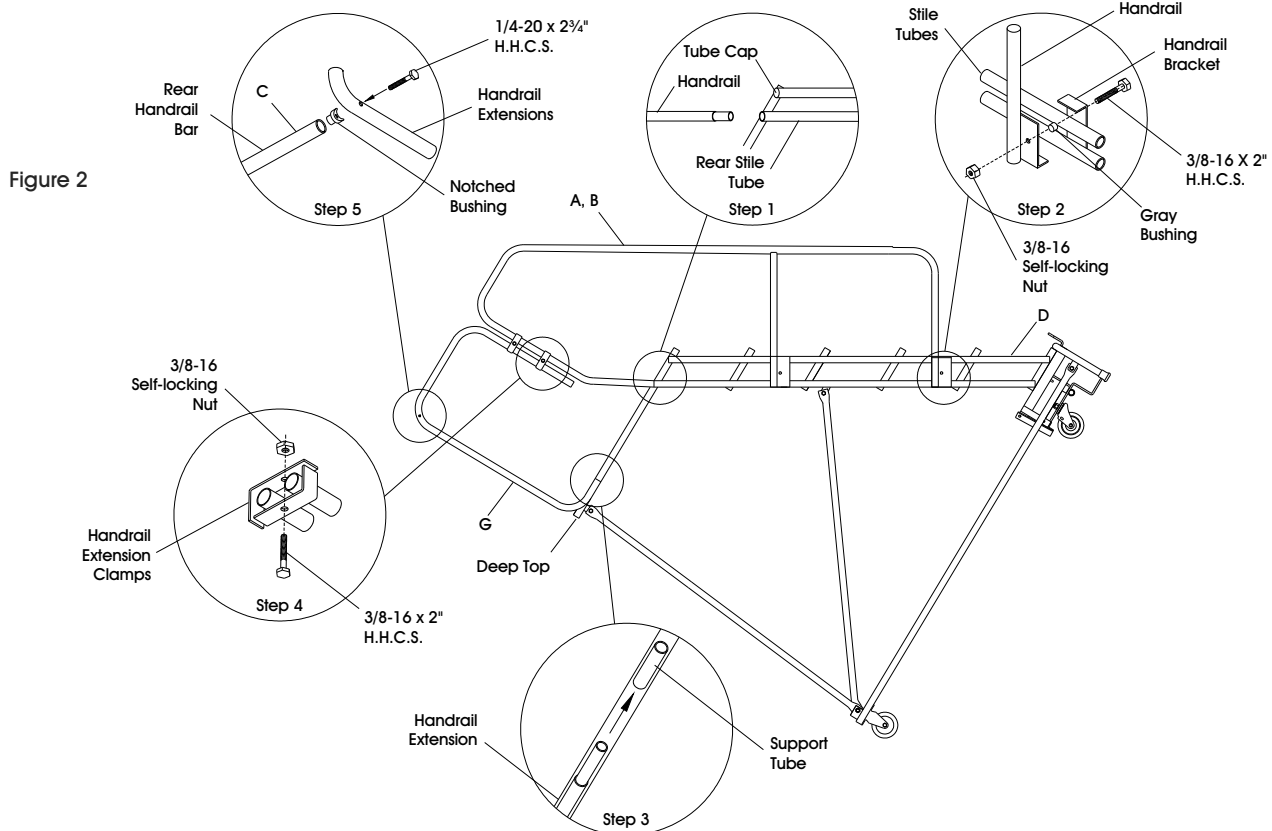

Figure 2
- With ladder on its side, install side handrail (A) into rear stile tubes. Use the rubber mallet as needed for mating parts. (See Figure 2, Step 1)
- Clamp side handrails outside of stile tubes using detached handrail brackets and 3/8-16 x 2" hex head cap screws, gray bushings and self-locking nuts. (See Figure 2, Step 2)
- Repeat step 2 with side handrail (B).
1. Install handrail extension panels (G) into support tubes located on the side of the 20" or 30" deep top. (See Figure 2, Step 3)
2. Clamp the handrail extension panels to the side handrails using handrail extension clamps and 3/8-16 x 2" hex head cap screws and self-locking nuts. (See Figure 2, Step 4)
1. Detach rear handrail bar (C) from the handrail or extension panel.
2. Insert notched bushing into each end of rear handrail bar (C).
3. Position rear handrail bar between mounting holes of side handrails (A) & (B). Attach using (2) 1/4-20 x 2 3/4" hex head cap screws. (See Figure 2, Step 5)